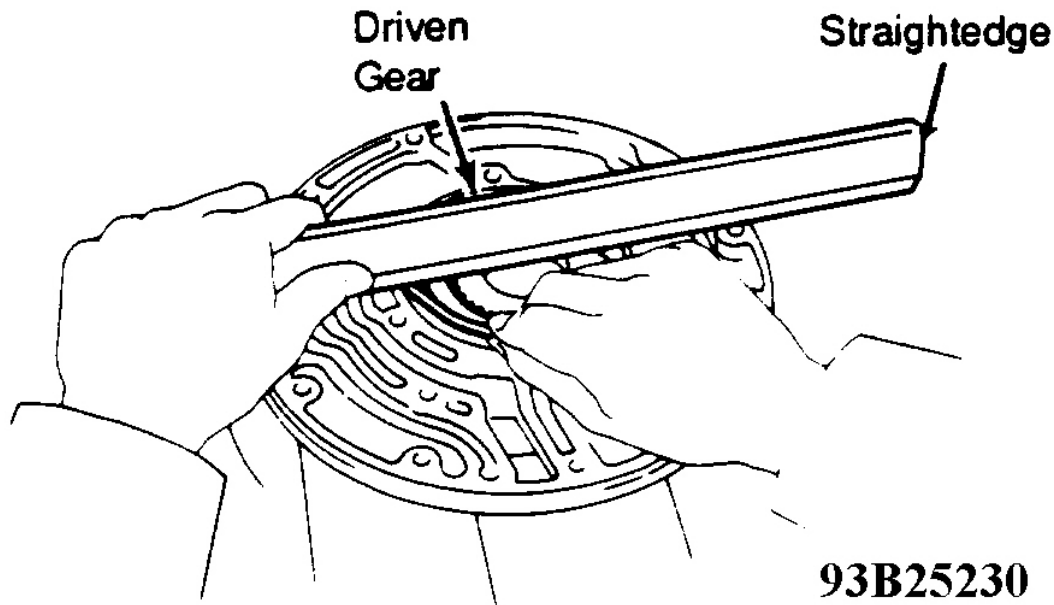

Fig. 17: Checking Gear Side Clearance
4. Using feeler gauge and straightedge, measure side clearance of both gears. See **Fig. 17** . Replace driven gear and pump housing if not within specification. See **OIL PUMP CLEARANCE SPECIFICATIONS** table. If side clearance is excessive, select and replace gears as a set. There are different thicknesses for drive and driven gears: .7258-.7264" (18.435-18.450 mm) and .7264-.7278" (18.451-18.486 mm). If necessary, replace pump body.